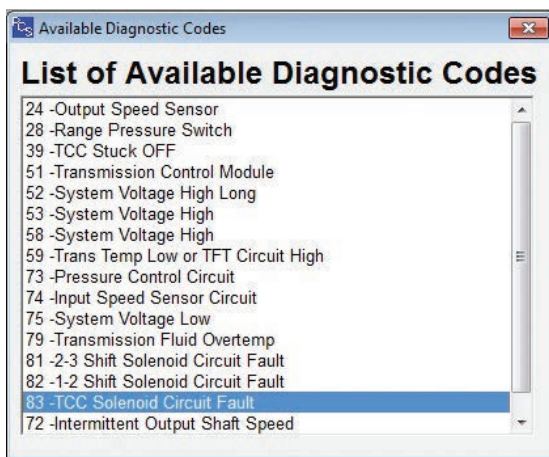

Figure 2
2. The “Available Diagnostic Codes” list will appear . Reference Figure 2.